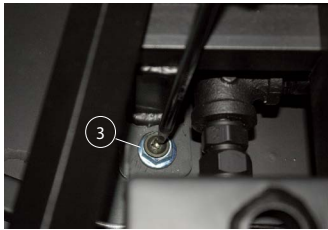
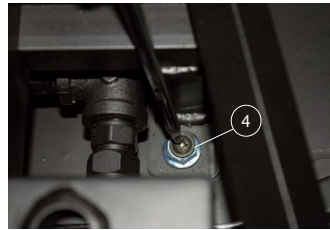

Figure 20a. (LH Base mounting machine screw).
Figure 20b. (RH Base mounting machine screw).
Step 3 & 4 Remove the two (2) (RH & LH) Base mounting machine screws, **Figure 20a & 20b. (Philips head screwdriver required).**
Step 3 & 4. Figure 20a. (LH Base mounting machine screw). **Figure 20b.** (RH Base mounting machine screw).